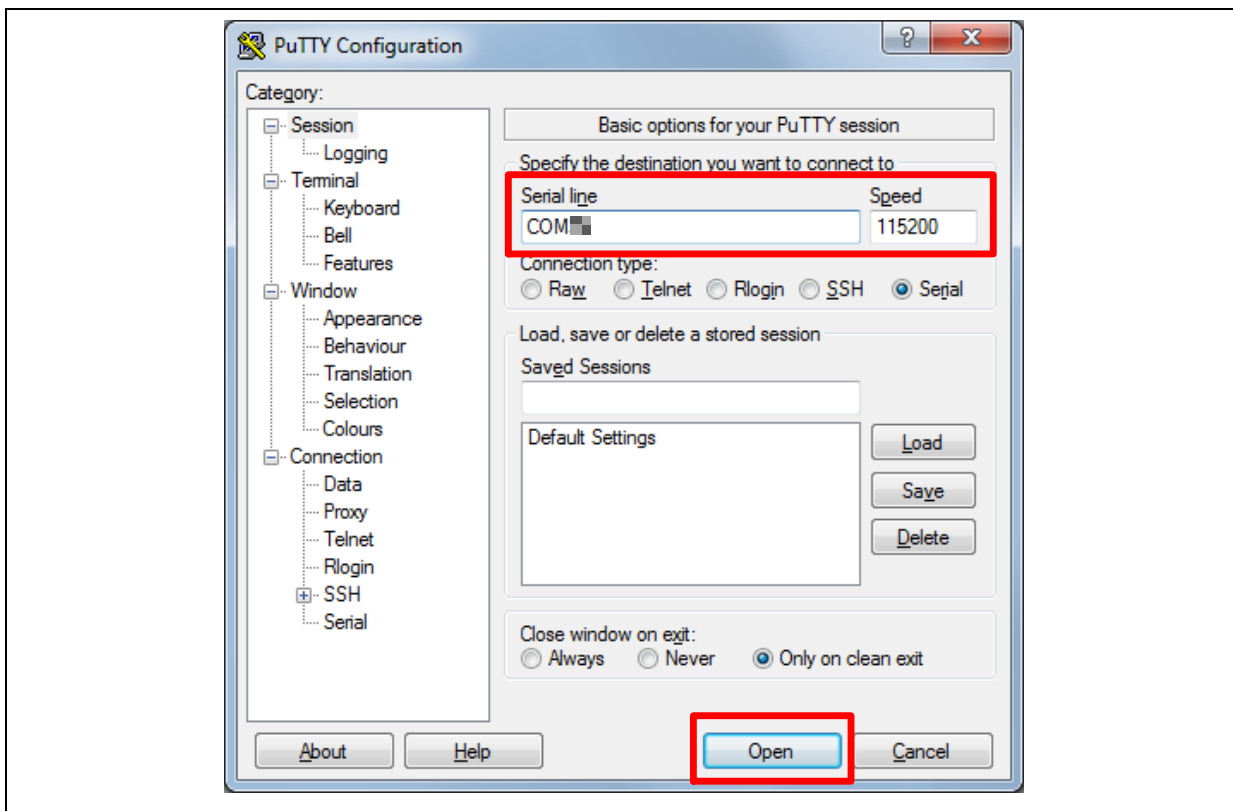

Figure 4-6 PuTTY Session Setting
- 4. Open a serial port terminal, PuTTY for example, to print out debug message. Set the speed to 115200. Figure 4-6 presents the PuTTY session setting.